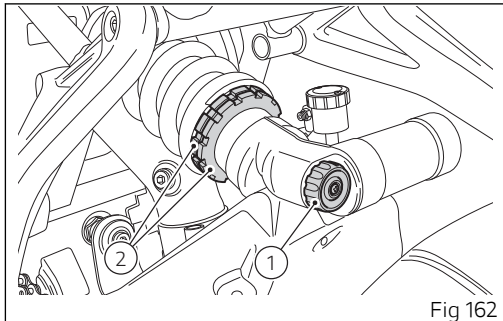

Fig 162
- compression: loosen adjuster (1, Fig 162) by 12 clicks (from fully closed);